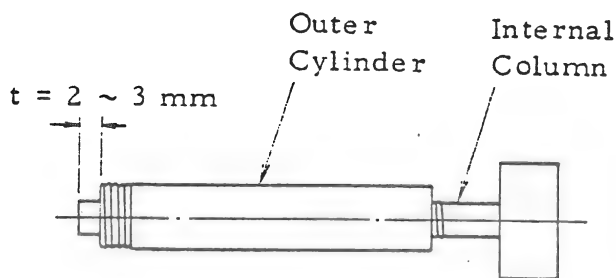

Fig. 10-3 Aperture Take-Off Tool
- (h) After winding the cords detached in step (g) around the column, lift the magnetic path and lay it on its side, and detach the aperture by the following method using the attached aperture take-off tool (Fig. 10-3).
- (i) Screw in the take-off tool shown in Fig. 10-3 clockwise by 2 ~ 3 pitches into the female screw inside the objective lens fixed aperture with the internal column head protruding from the outer cylinder by 2 ~ 3 mm, and then screw in the internal column clockwise until it no longer moves while holding the outer cylinder. After fixing the internal column securely, turn the outer cylinder counterclockwise to detach the fixed aperture.
- (1) For the method of cleaning the condenser lens aperture, see the instruction manual.
- (2) Cleaning of objective lens fixed aperture
- (d) Screw in the take-off tool shown in Fig. 10-3 clockwise by 2 ~ 3 pitches into the female screw inside the objective lens fixed aperture with its internal column head protruding from the outer cylinder by 2 ~ 3 mm, and detach the fixed aperture by turning the internal column clockwise while holding the outer cylinder.